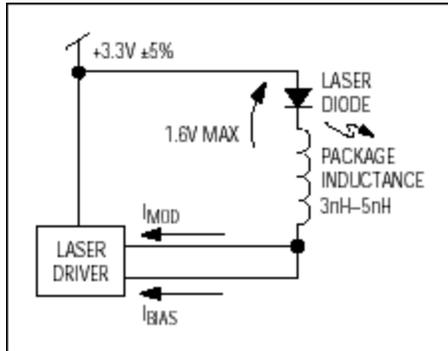

Figure 3. DC-coupled laser.
**Figure 3** shows a laser diode and the inductance associated with the package. In this configuration, a total current of  $I_{BIAS} + I_{MOD}$  must flow through both the laser diode and the inductance.